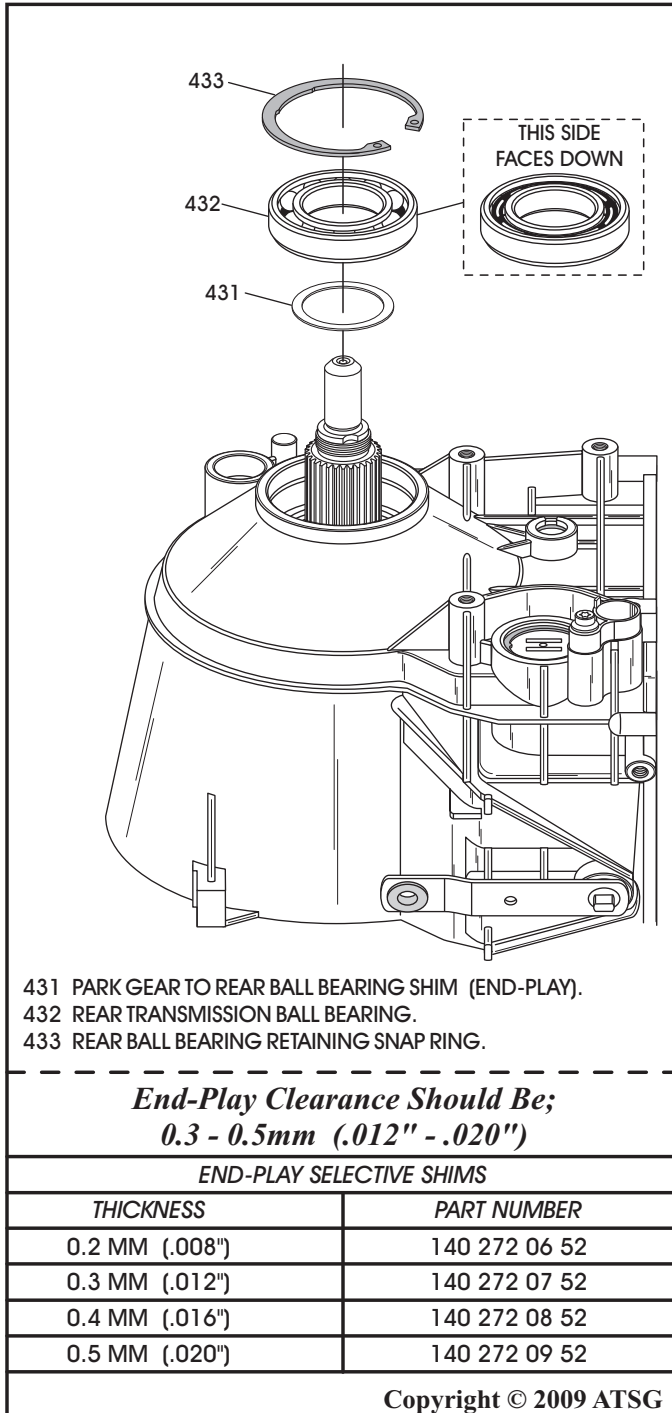

Figure 189
27. There are 4 different thickness shims available and are listed in Figure 189.
28. Install the proper shim from your calculation, into transmission on top of parking gear hub, as shown in Figure 189.
29. Install ball bearing into transmission housing, as shown in Figure 189.
Note: The closed side of the plastic cage faces the parking gear, as shown in Figure 189.